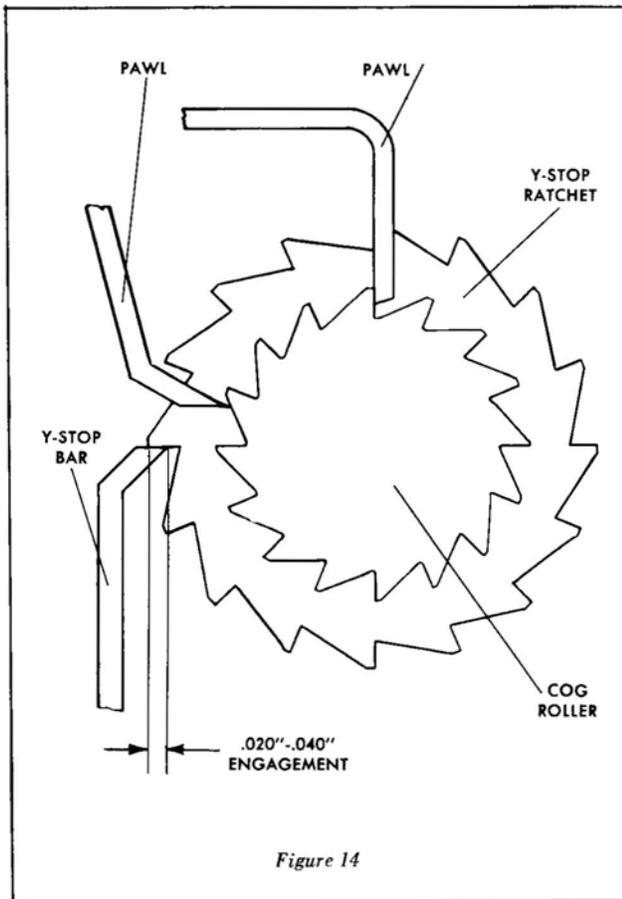

Figure 14
2. STOPPING ACTION (See Fig. 14)